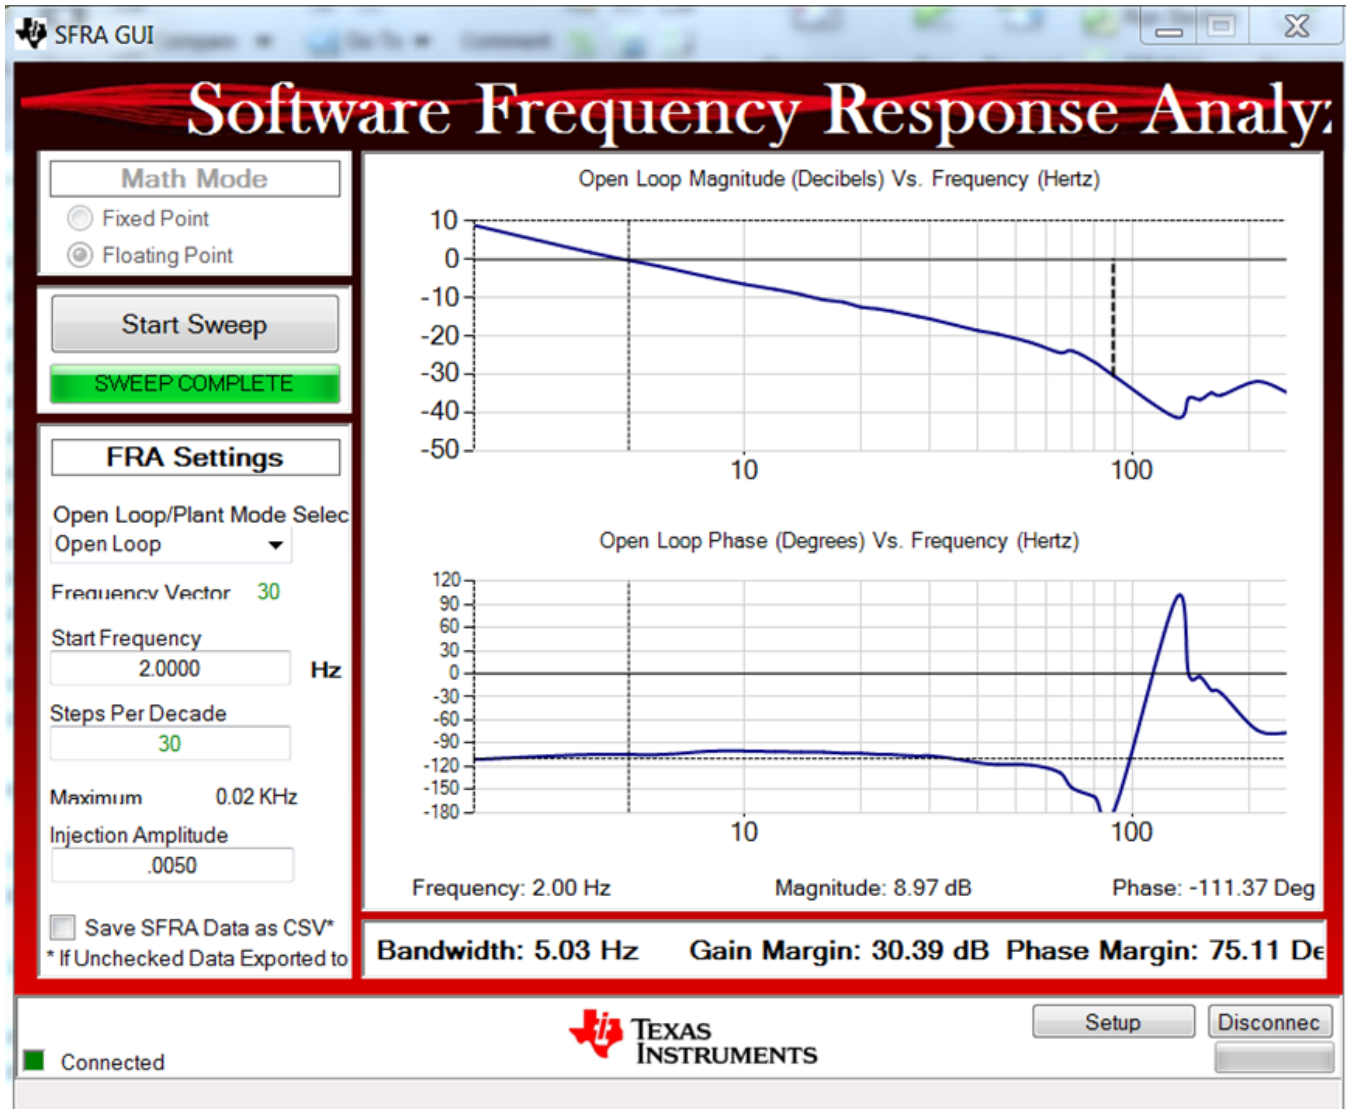

图 40. SFRA Run on Closed Voltage Loop
- The SFRA GUI connects to the device. A SFRA sweep can now be started by clicking *Start Sweep*. The complete SFRA sweep takes a few minutes to finish. Activity can be monitored by seeing the progress bar on the SFRA GUI and checking the flashing of blue LED on the back on the control card that indicates UART activity. Once complete, a graph with the open loop plot appears, as seen in 图 40. This action verifies that the designed compensator is indeed stable.